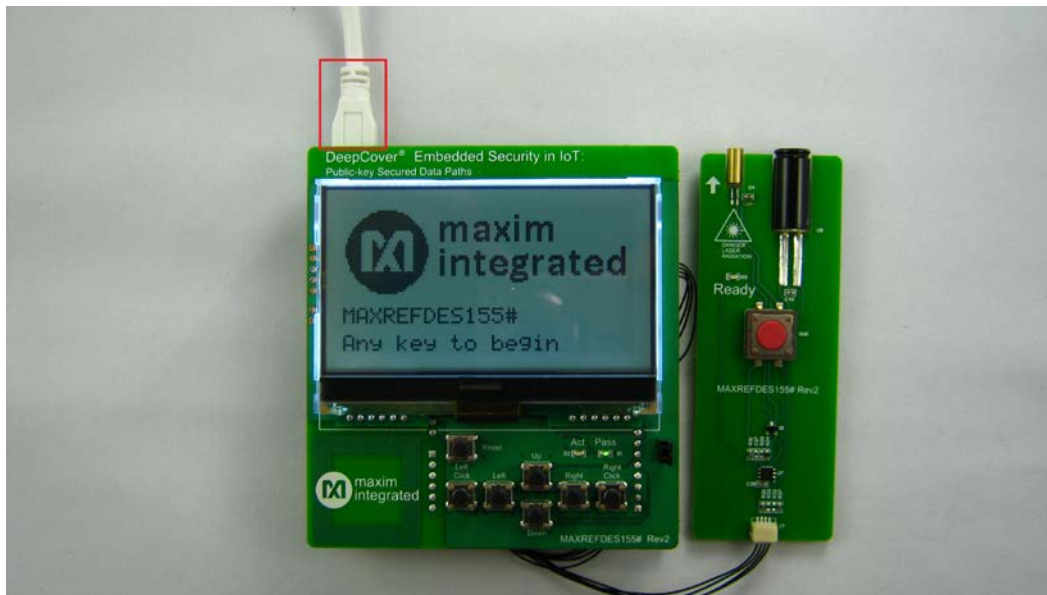

Figure 9a. Power the MAX32600MBED# and MAXREFDES155# using the DEV USB port.
3. Power the MAX32600MBED# through the DEV USB port (**Figure 9a**). Click any key to begin and the LCD immediately displays the unique Web ID for the MAXREFDES155# mbed shield (**Figure 9b**). This is used for session tracking on the web server. Write down this session Web ID for later.